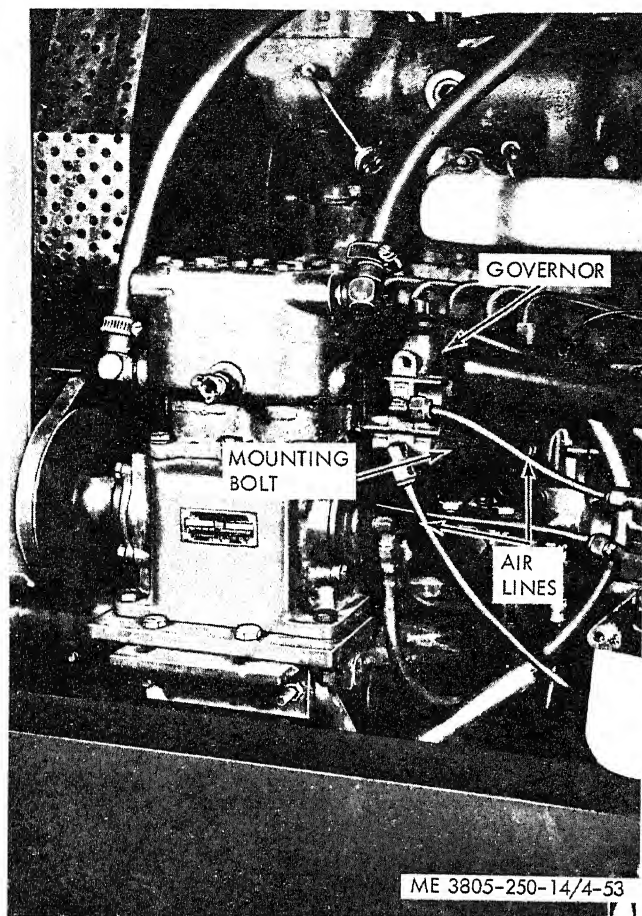

Figure 4-53. Air compressor governor, removal and in stallation.
*b. Removal.* (fig. 4-53).
(1) Block the loader or apply the parking brake.
(2) Drain the air system.
(3) Clean the governor and connecting air lines.
(4) Disconnect air lines leading to the alcohol evaporator and air compressor. Cap or plug openings.
(5) Remove two bolts, lockwashers and nuts securing the governor to the air compressor, and remove the governor.